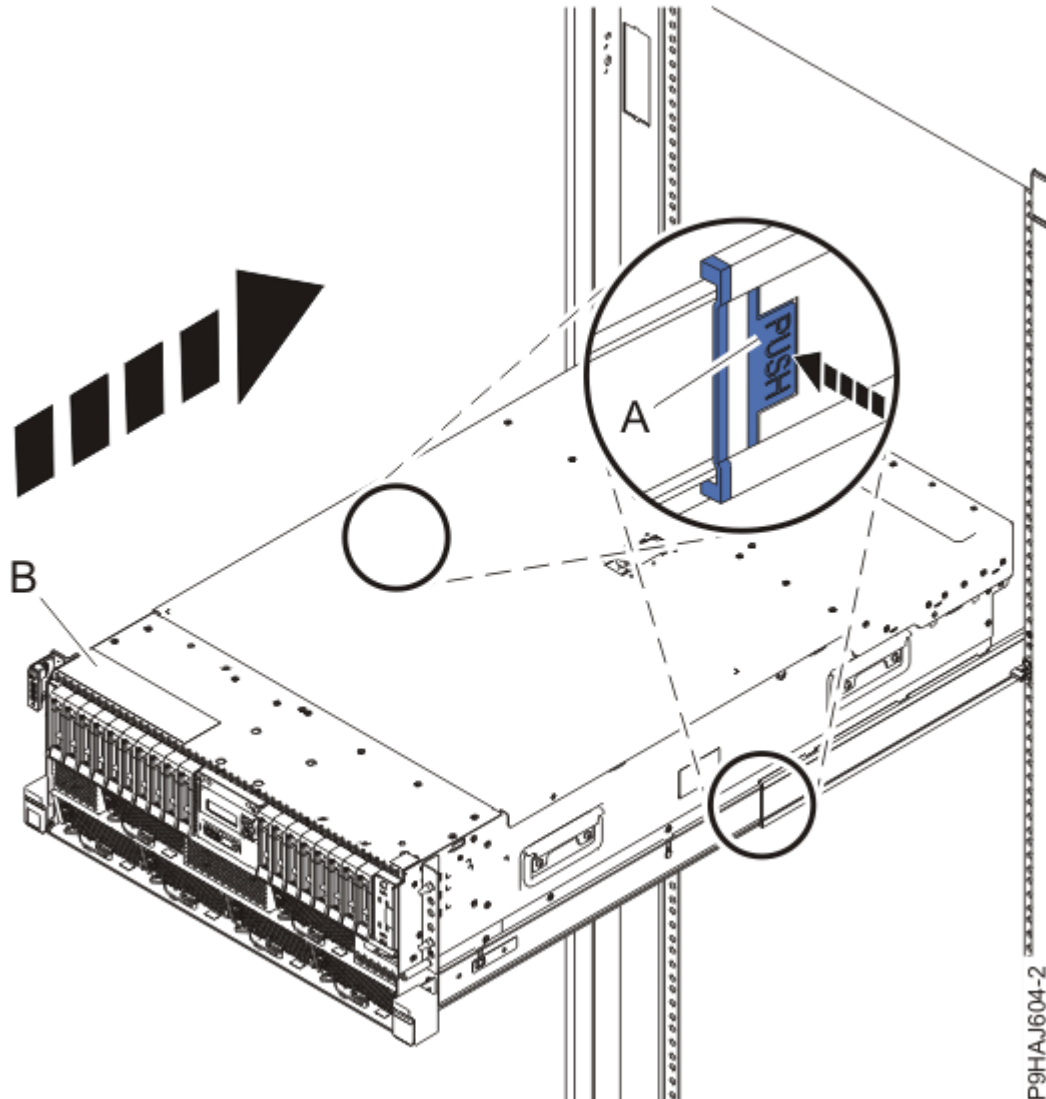

Figure 43. Placing the system into the operating position
2. For a rack-mounted system, unlock the blue rail safety latches **(A)** as shown in Figure 43 on page 60 by pushing them inward.